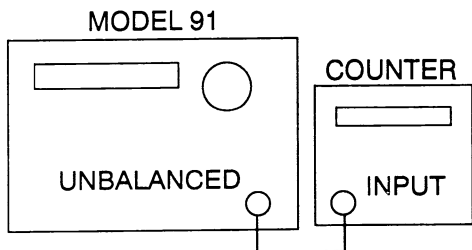

Figure 4-2. Frequency Reference Setup
1. Allow the unit to warm up 20 minutes. Remove the screws from the top cover; paragraph 6.9. Then slide the top cover back. Press and hold down the internal calibration switch SW1 (figure 4-2) while pressing the **SHIFT** and **CALIBRATE** keys. Slide the cover back on.
1. Connect the test equipment as shown in figure 4-2.